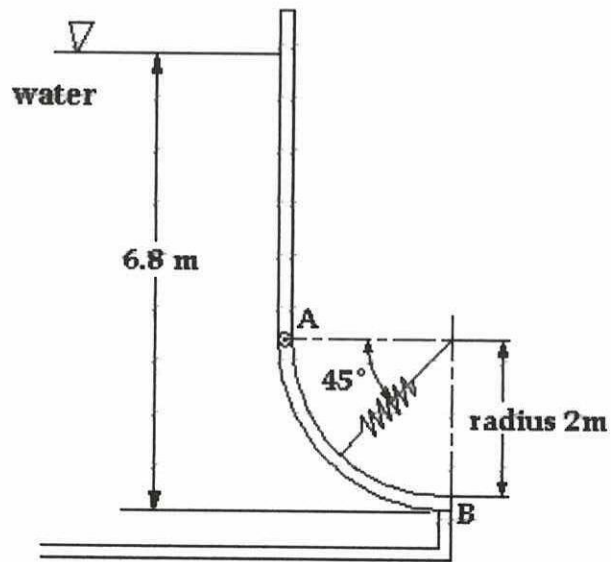

Figure Q2
- Q2** A 3-m-long quarter-circular gate of radius 2 m is hinged about its upper edge at A as shown in **Figure Q2**. The spring is used to press the gate to control the water flow over the ledge B. Determine the minimum spring force required to keep the gate closed when the water level reaches 6.8 m. (20 marks)